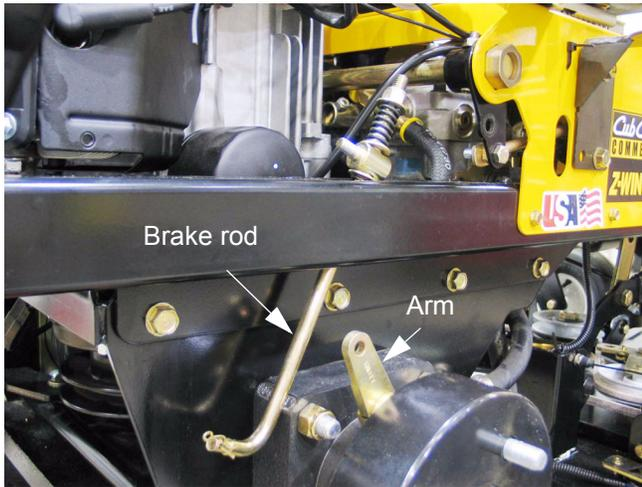

Figure 22.6
- 22.6. Disconnect the bottom ends of the brake rods from the arms on the brakes by removing the hairpin clips. See Figure 22.6.